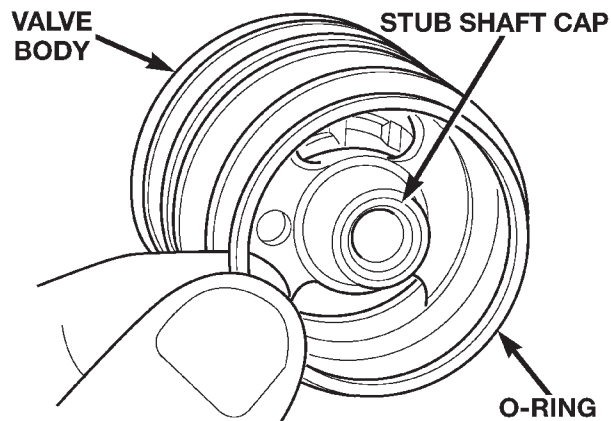

Fig. 18 Stub Shaft Cap O-Ring
(4) Install O-rings and teflon rings over the O-rings on valve body.
(5) Install O-ring into the back of the stub shaft cap (Fig. 18).